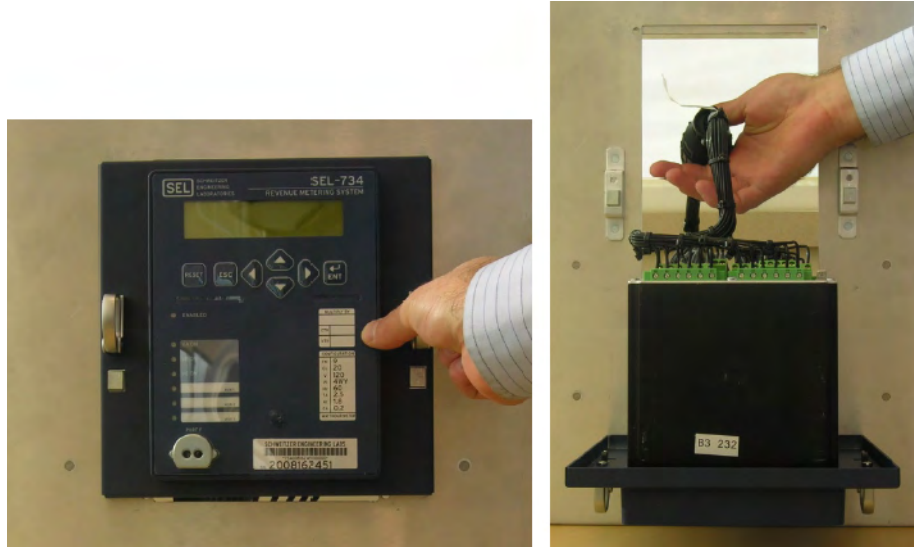

Figure 5 EXM Removal
- Step 6. To remove the EXM from service, simply pull on the two release latches and allow the meter to rotate down as shown in *Figure 5*. The meter will hang on the rear-panel hook to facilitate access to the rear-panel connectors. Unscrew and separate the quick twist-off and self-shorting CT connectors and lift the meter out of the panel.